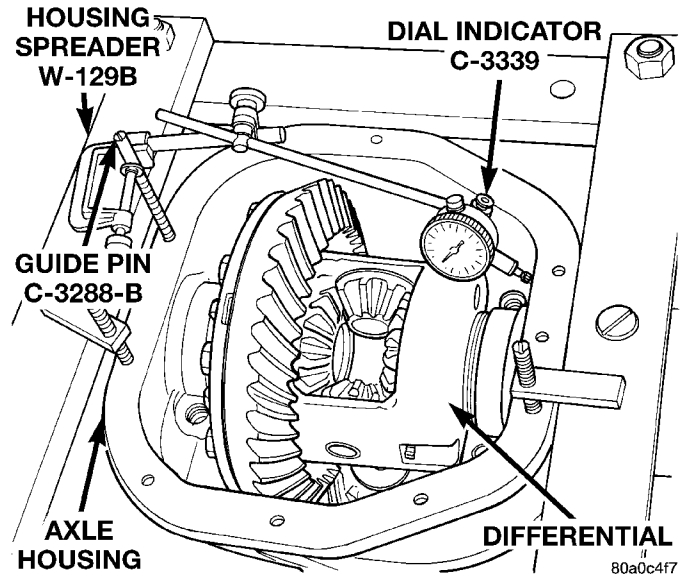

Fig. 28 Spread Differential Housing
- (3) Remove the differential bearing caps.
- (4) Position Spreader W-129-B with the tool dowel pins seated in the locating holes (Fig. 28).
- (5) Install the hold down clamps and tighten the tool turnbuckle finger-tight.
(6) Install a Guide Pin C-3288-B at the left side of the differential housing. Attach dial indicator to housing pilot stud. Load the indicator plunger against the opposite side of the housing (Fig. 28) and zero the indicator.
(7) Spread the housing enough to remove the case from the housing. Measure the distance with the dial indicator (Fig. 28).
- (1) Position Spreader W-129-B with the tool dowel pins seated in the locating holes (Fig. 28). Install the hold down clamps and tighten the tool turnbuckle finger-tight.
- (2) Install a Guide Pin C-3288-B at the left side of the differential housing. Attach dial indicator to housing pilot stud. Load the indicator plunger against the opposite side of the housing (Fig. 28) and zero the indicator.
- (3) Spread the housing enough to install the case in the housing. Measure the distance with the dial indicator (Fig. 28).